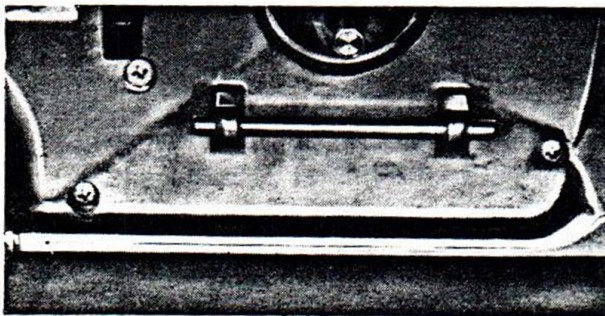

Figure 14. Fan Case Assembly Screw Removal
1. See Figure 14. Remove one flat head phillips head screw from front of fan case assembly. This screw is located just below rug nozzle interlock.